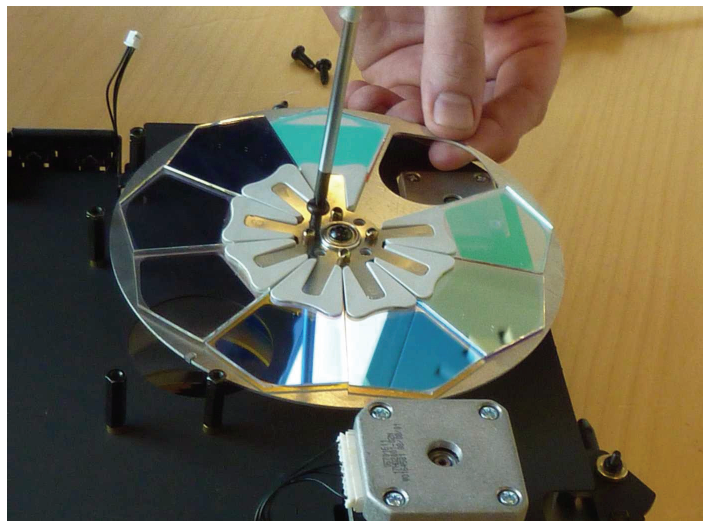

Figure 24
29. See Figure 24. Fasten the new color wheel onto its flange in any position where the screw holes line up using four M4 x 10 Taptite screws. Do not damage the filters while applying force to cut the threads in the color wheel flange.